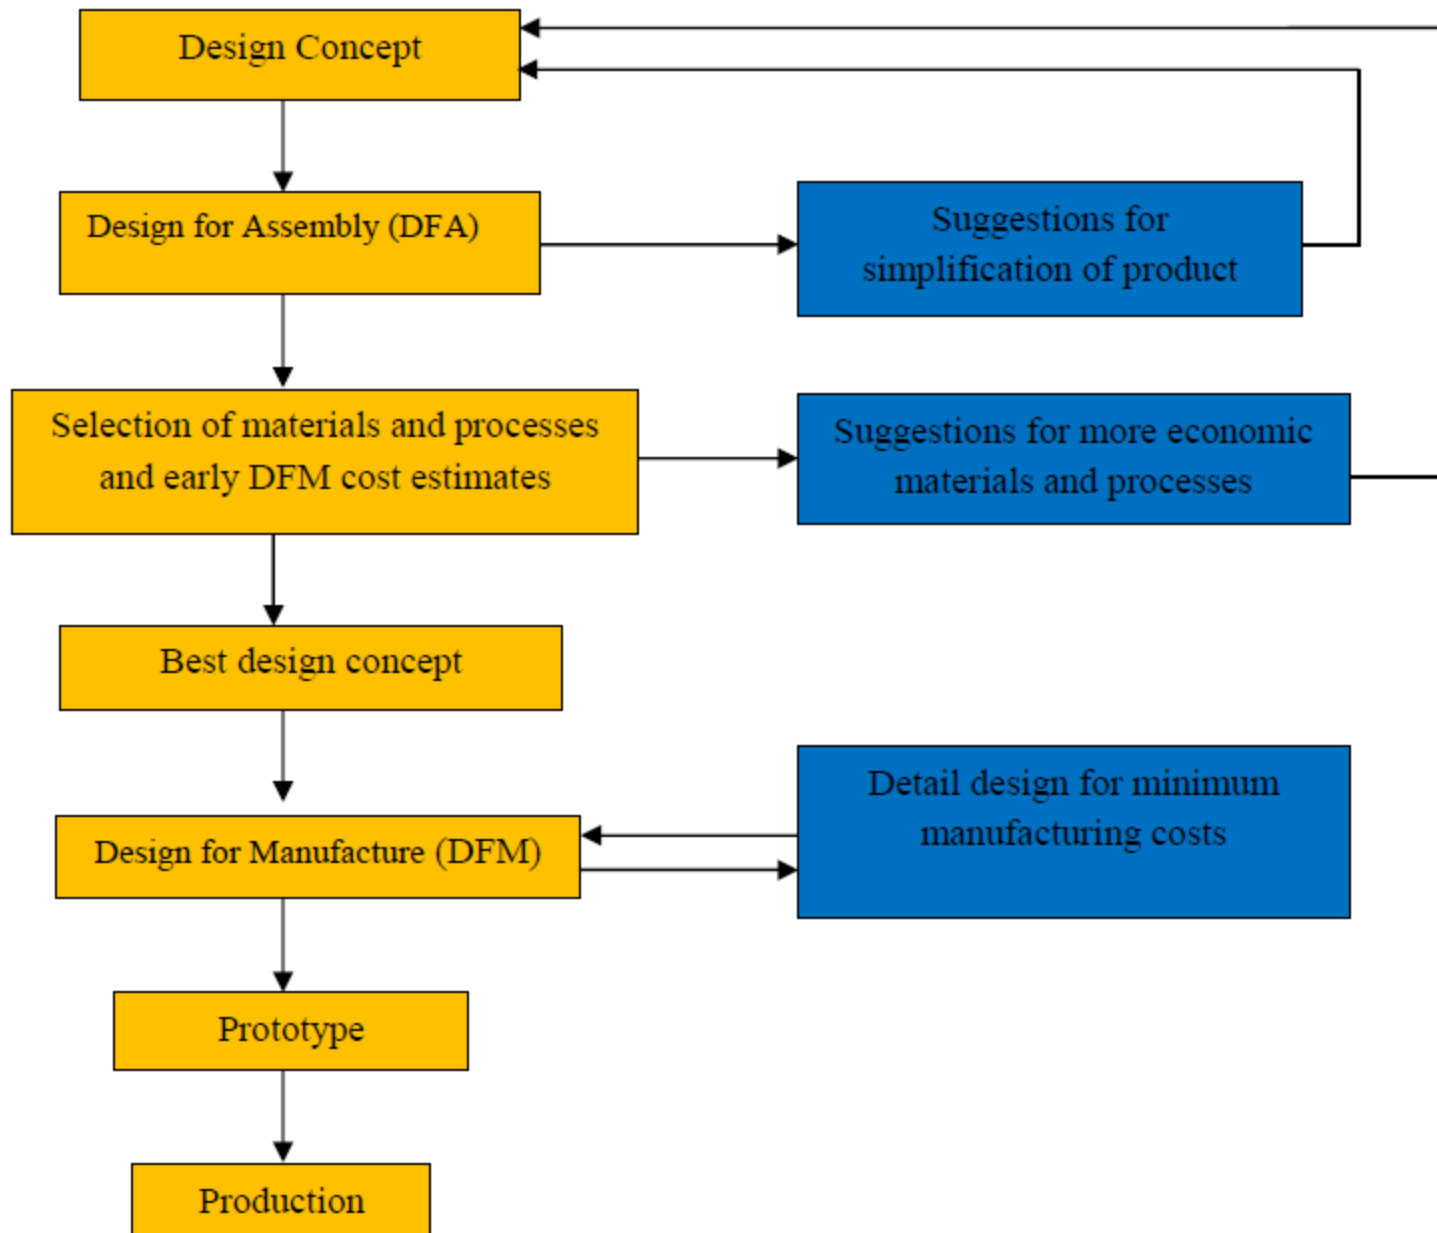

Figure M1.1.2: Common steps taken in a DFMA study (Source: G. Boothroyd, P. Dewhurst and W. Knight *Product Design for Manufacture and Assembly*, 2nd edition)
- After final selection of material and process carry out a thorough analysis of DFM Figure M1.1.2 depicts the flow diagram of various steps undertaken in a DFMA study using DFMA software